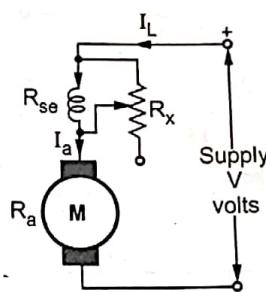

Fig. Q.52.2 Field divertor method
- In this method the series field winding is shunted by a variable resistance ( $R_x$ ) known as **field divertor**. The arrangement is shown in the Fig. Q.52.2.